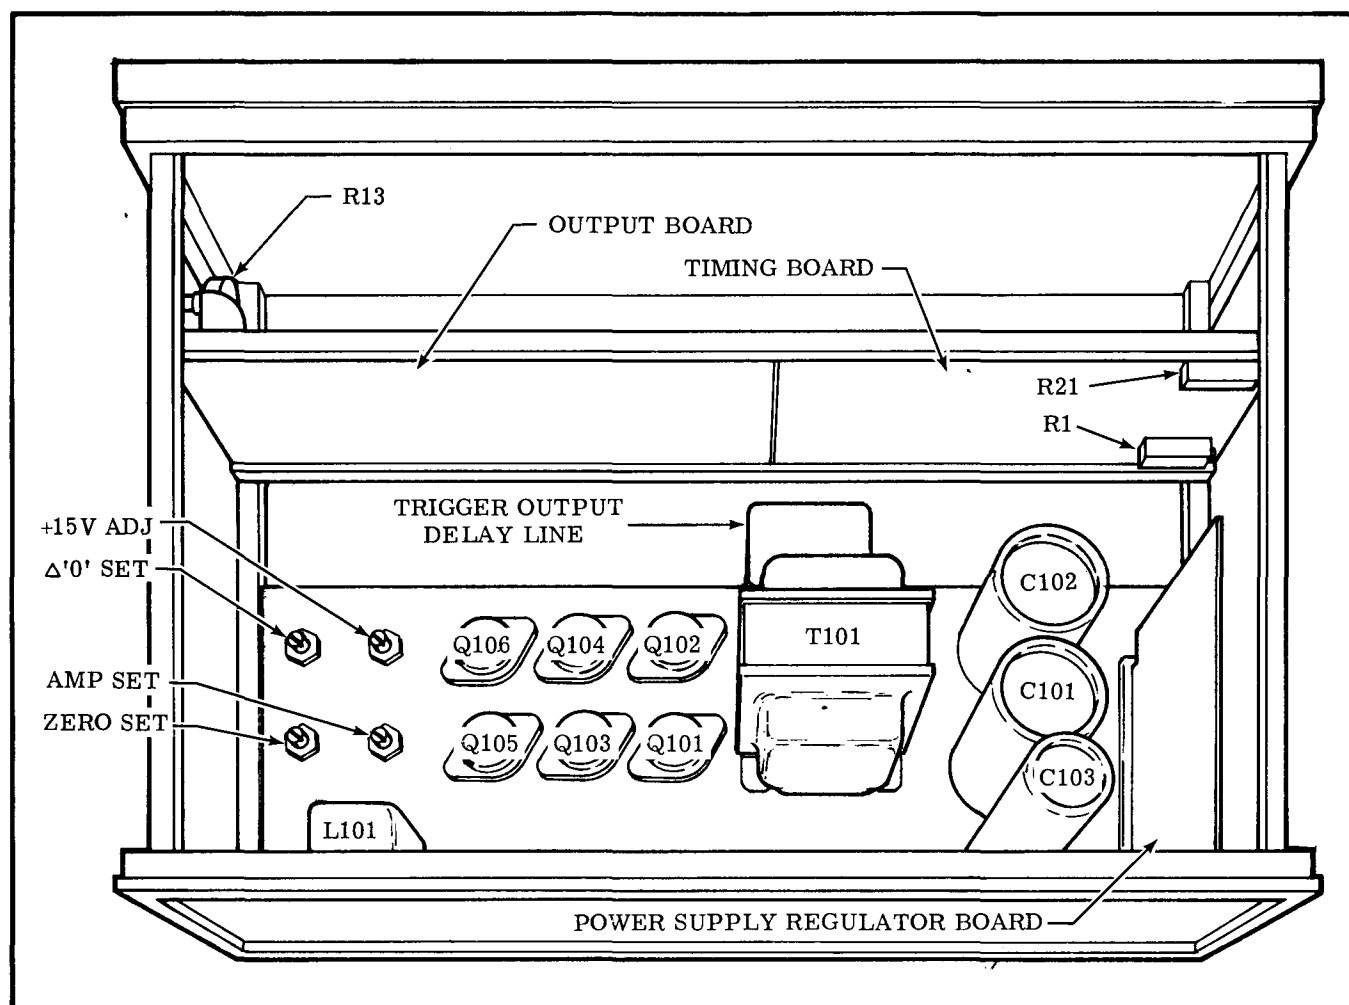

Fig. 4-1 Location of Calibration Adjustment
(2) Check that the FINE (FREQ. RANGE) control smoothly varies the time interval between output pulses per Fig.4-1.